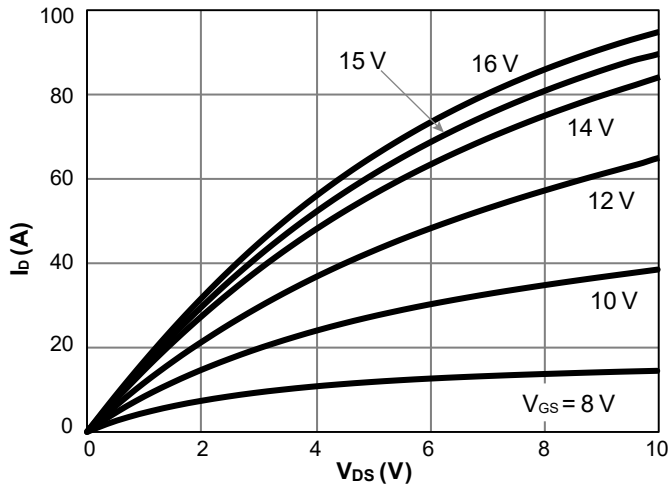

Figure 1. On-Region Characteristics $T_J = 25^\circ\text{C}$
- The static characteristics in Figures 1 to 8 are obtained using < 300 ms pulses, duty cycle 0.5% max.